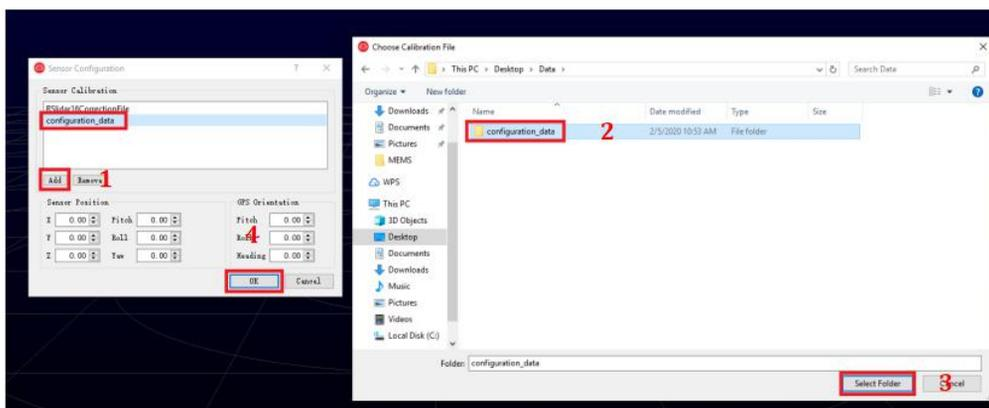

Figure C-2: RSView Select Sensor Correction File.
4. The Sensor Configuration dialog will appear. The application contains a default configuration folder of RSLIDAR-32 called “RSLiDAR32CorrectionFile” for reference, but please add the right configuration files folder of the RSLIDAR-32 you have, or you will get chaos point cloud display with the default configuration files. Select the configuration files folder of your LiDAR and then click **OK** (Figure C-2). The path of the folder should only include English characters and should include all three csv files (angle.csv, ChannelNum.csv, curves.csv). You can find the configuration files folder named “configuration_data” in the U disk in the RS-LiDAR-32 package box or you can ask the RoboSense support to get the files.